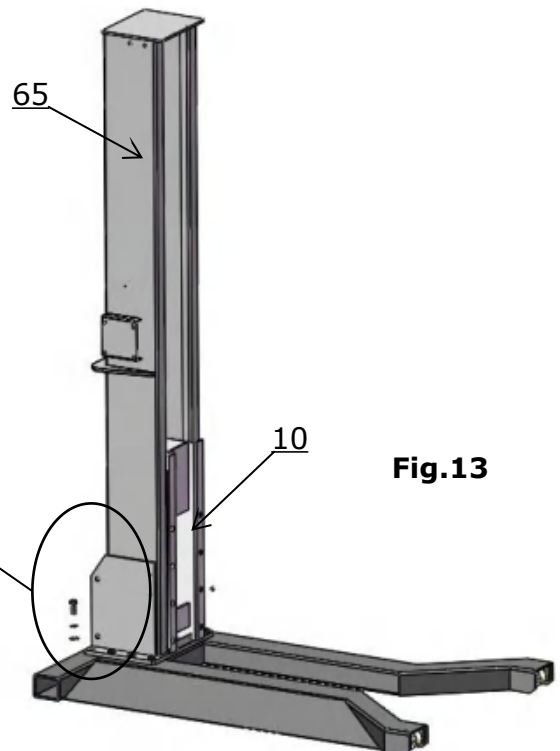

Fig.13
3. Position the column onto the base, align the mounting holes, and install with bolts. Check the column plumbness with level bar, adjust with shims if necessary. (See Fig.13)